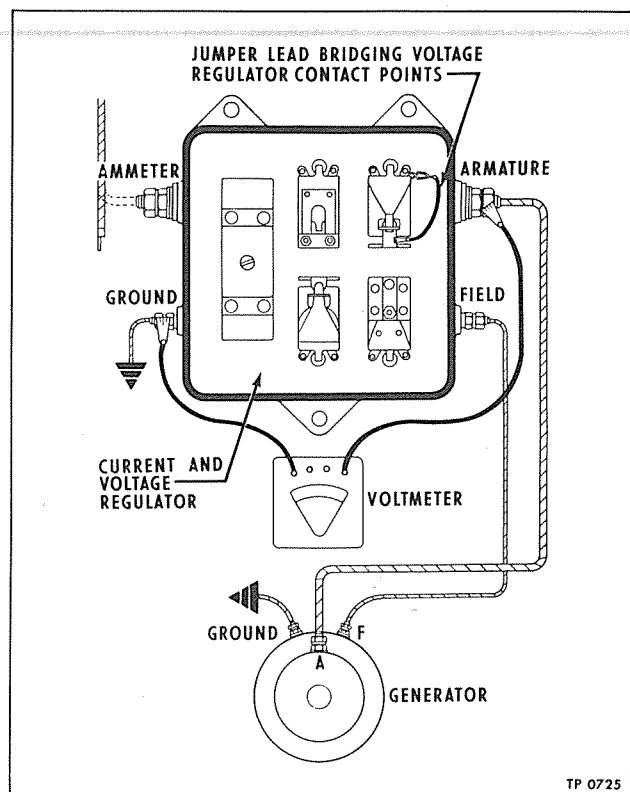

Figure 11—Meter Connection for Field Relay Electrical Check
1. Connect a jumper lead between voltage regulator points (fig. 11) to prevent regulator operation.
2. Disconnect battery lead at regulator "Ammeter" terminal. Connect a test voltmeter between regulator "Armature" terminal and "ground" (fig. 11).